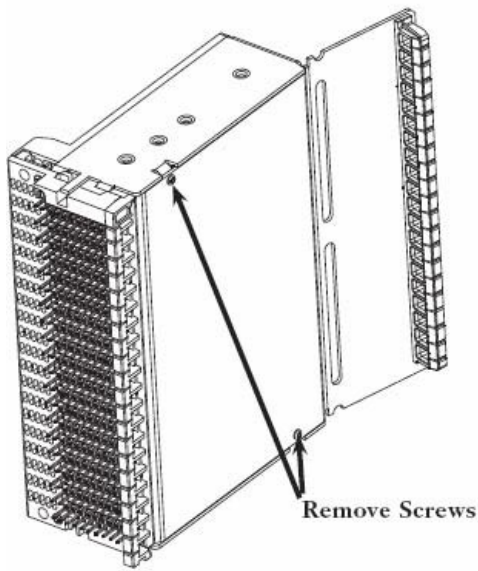

Figure 3
**4.1** Remove back cover from C(G)-391 connector (Figure 3).